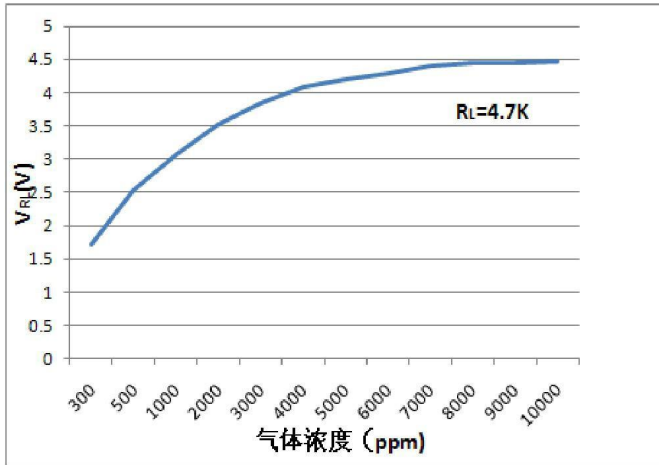

Figure 5 Sensitivity characteristic curve
Figure 5 shows the corresponding V_{RL} (V) is 4.7. The data points in the figure are completed under standard test conditions.